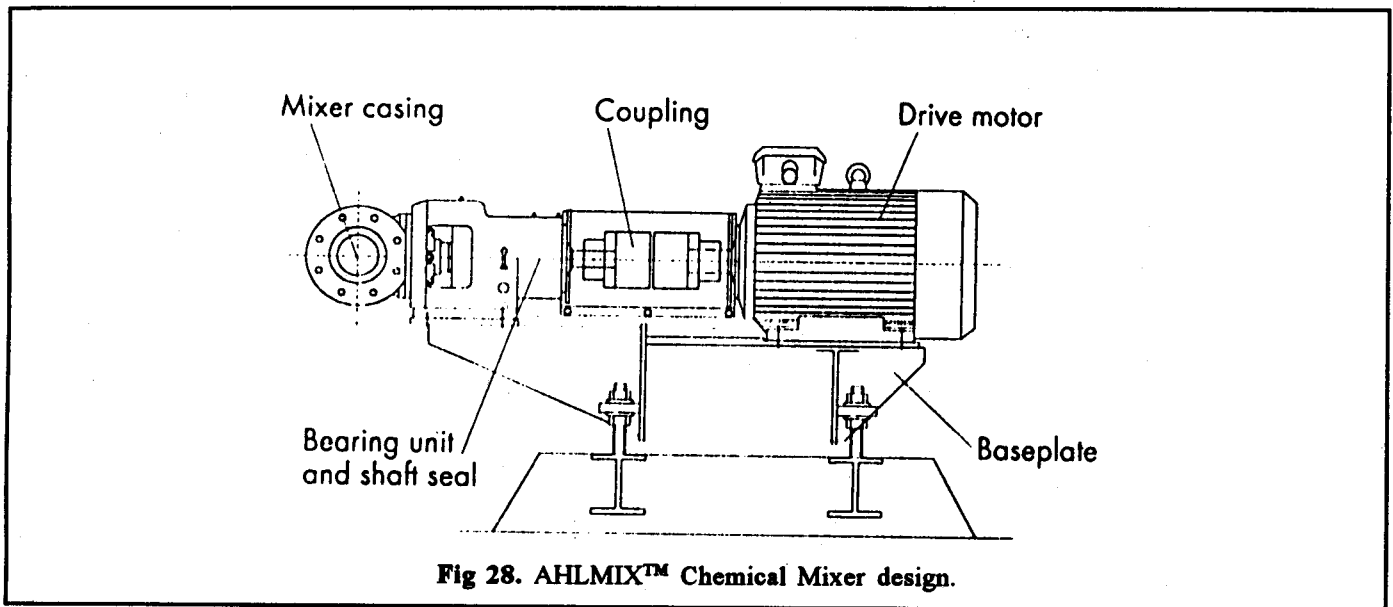

Fig 28. AHLMIX™ Chemical Mixer design.
The design of AHLMIX™ is shown in Fig.28.
- Fig.28. **AHLMIX™ Chemical Mixer design.**